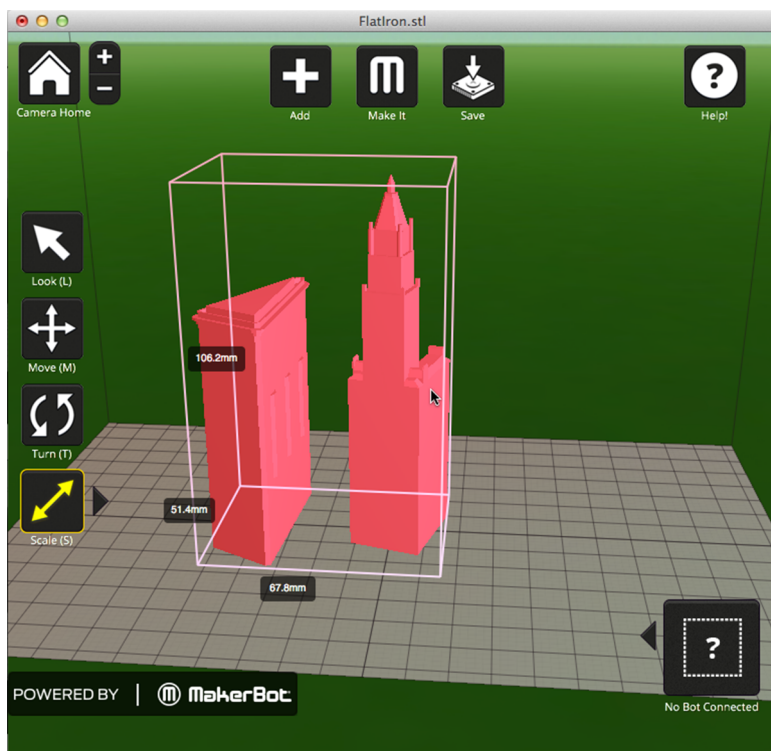

Figure 6-29. *Scaling the Flatiron and Woolworth buildings*
7. Select the Scale button. Click and drag to change the size of both models, as shown in Figure 6-29.